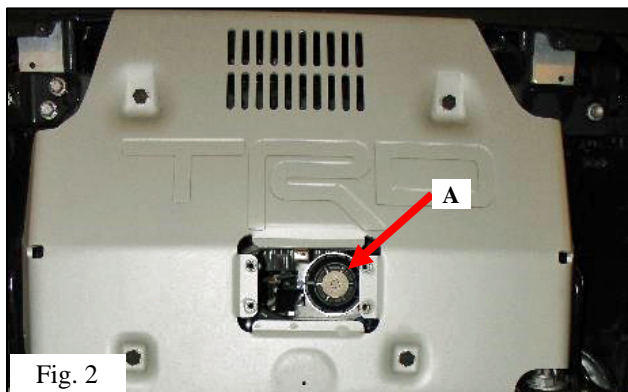

Fig. 2
(c) With the panel removed, remove and replace the oil filter (A) as per the proper oil change procedure (Fig. 2).